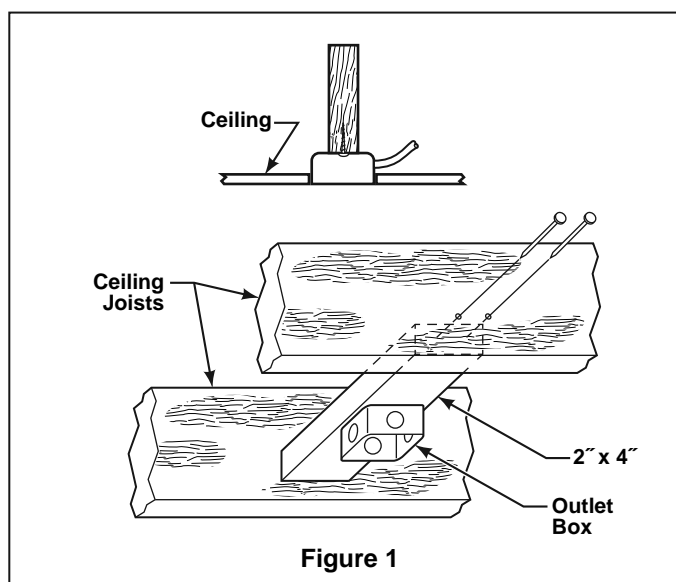

Figure 1
**NOTE:** If you are uncertain of part description, refer to exploded view illustration. (Figure 1, page 11)
Your new ceiling fan will require a grounded electrical supply line of 120 volts AC, 60 Hz, 15 amp circuit. The outlet box must be securely anchored and capable of withstanding a load of at least 50 lbs. **Figure 1** depicts different structural configurations that may be used for mounting the outlet box.
1. Remove the Hanger Ball by loosening the setscrew in the Hanger Ball until the ball falls freely down the Downrod. (Figure 1) Remove the Pin from the Downrod, then remove the Hanger Ball. Retain the Pin and Hanger Ball for reinstallation in Step 5.
5. Reinstall the Hanger Ball (Figure 1) on the Downrod as follows. Route the three 80" wires and cable through the Hanger Ball. Position the Pin through the two holes in the Downrod and align the Hanger Ball so the Pin is captured in the groove in the top of the Hanger Ball. Pull the Hanger Ball up tight against the pin. **Securely tighten the setscrew in the Hanger Ball.** A loose setscrew could create fan wobble.